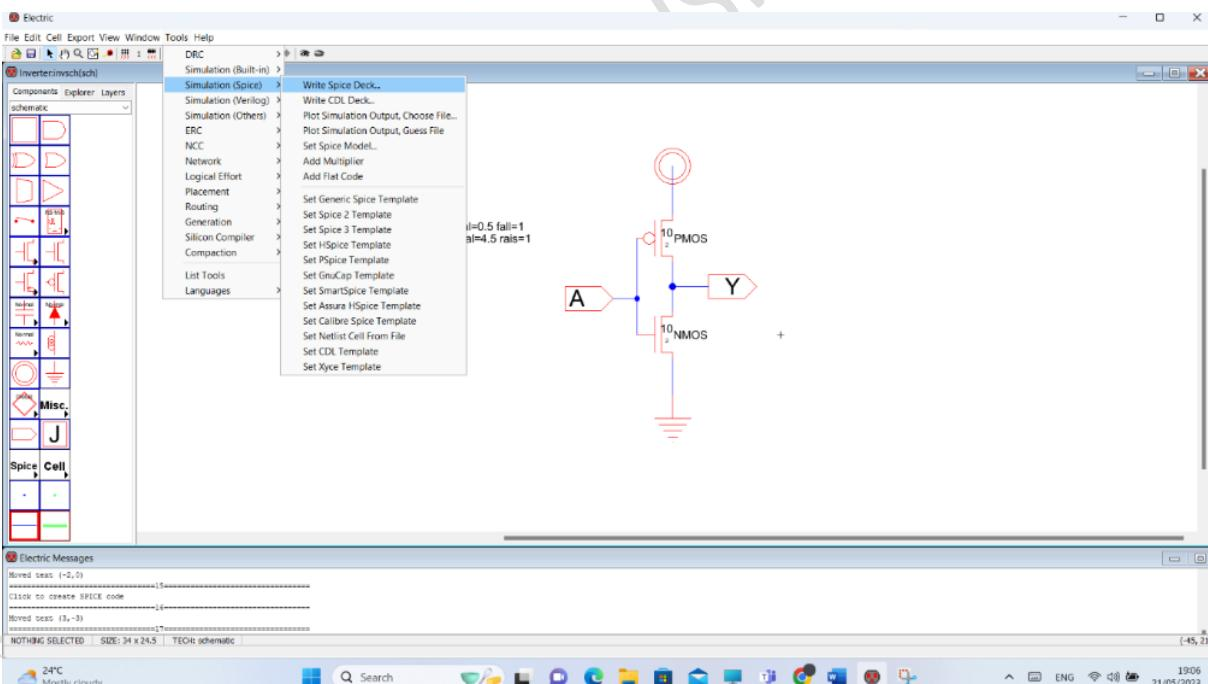

Figure 1.21 Simulation Code
15. Now, to simulate your code, click on Tools >> Simulation (Spice) >> Write Spice Deck. (see Figure 1.21).